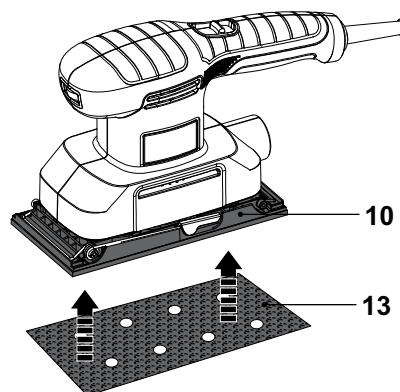

Fig. 1
- > Align the hole pattern of the sanding paper (13) with the one in the base plate (10) before attaching the sanding paper (13) to the plate to ensure efficient dust extraction and a satisfactory result.
- > Slightly press the sanding paper (13) to fix it to the base plate (10) (Fig. 1).